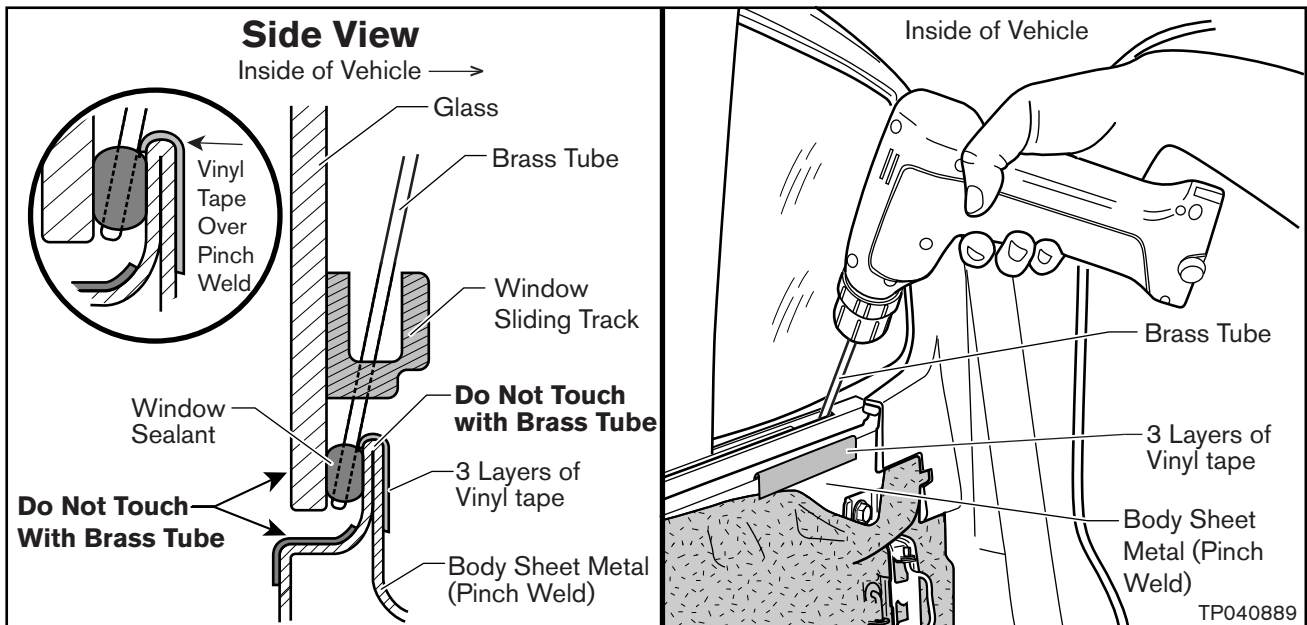

Figure 6
- b. On the inside of the vehicle, remove the Cardboard Protector and apply 3 layers of vinyl tape over the body sheet metal (pinch weld) below the 5-mm holes you just drilled (see Figure 6).
- c. Using a piece of brass tube in a drill motor, and going through the 5-mm drilled holes, very carefully drill two holes through the Sliding Window Sealant (see Figure 6).